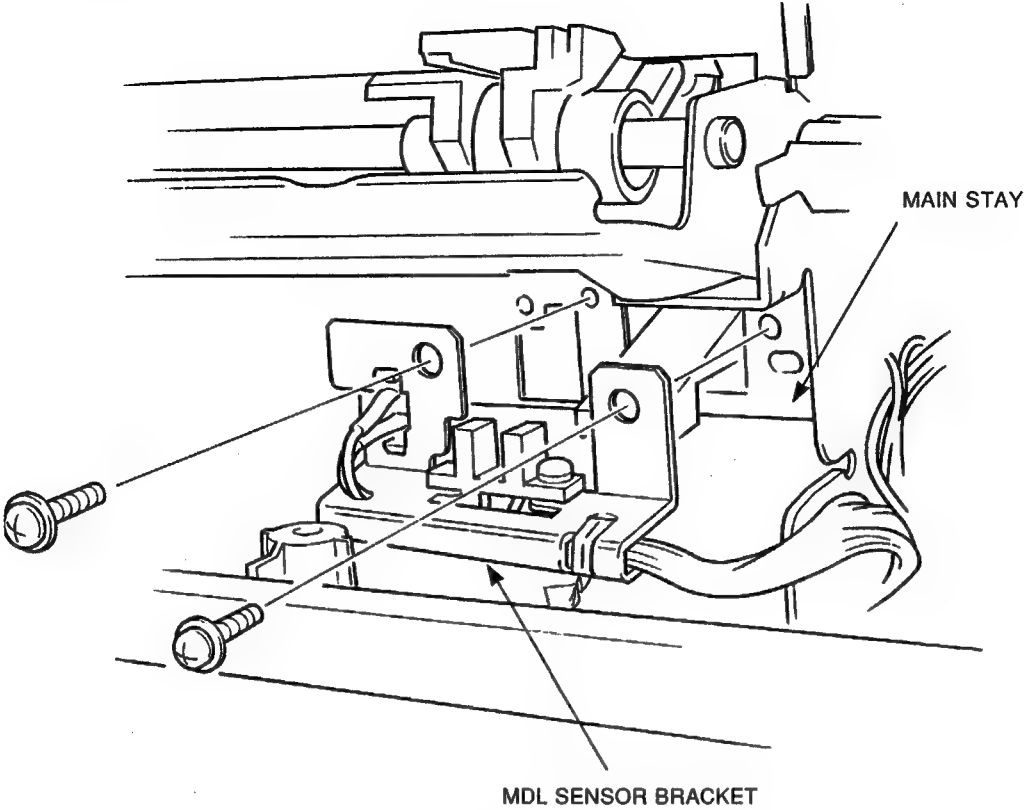

Figure 3-30 MDL Sensor Bracket
4. Remove the MDL sensor bracket by removing the two screws securing it to the main stay (see Figure 3-30).